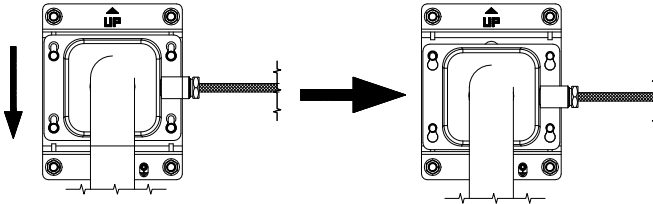

Figure 2-9 Install Bracket to Installation Plate
- 3) Hang the speed dome to the bracket by aligning the holes of bracket with the screws and move the speed dome downward to secure the speed dome as shown as Figure 2-9.